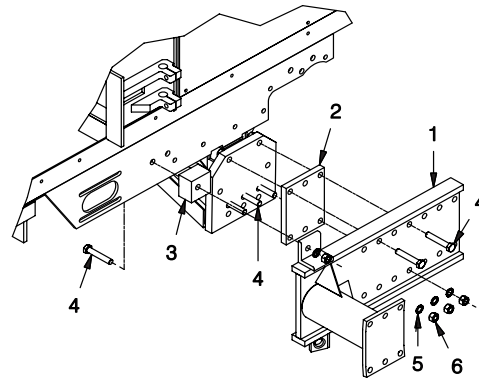
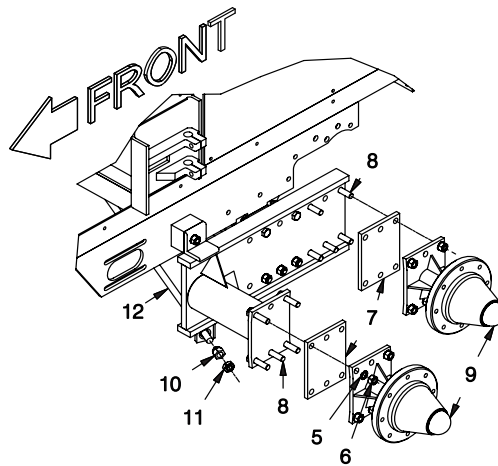

Figure 1 - Mounting Tandem Plate and Spacers
Figure 2 - Mounting Spacer Plates, Hubs & Truss Rod
A. Place (3) 219530 Bolts through the axle as shown in Figure 1. Place (1) 219530 Bolt through frame as shown in Figure 1. Place (1) PLT0026966 Spacer, (1) 901626 Tandem Plate, and (1) 901274 Bar Spacer as shown in Figure 1. Place remaining bolts, star washers, and nuts on so the tandem plate and spacer are secure.
B. Place (2) F000007636 Spacer Plates on the tandem plate as shown in Figure 2. Place (2) F000008003 Hub and Spindle assemblies as shown in Figure 2. Place all bolts, star washers and nuts so the hub and spindle are secure. Torque all nuts and bolts as per torque chart on page 1. Place (1) RD00708600 Truss Rod as shown in Figure 1. Secure truss rod finger tight with (2) NMS0007125 Truss Rod Nut and (2) NFJ0000750 Jam nut.